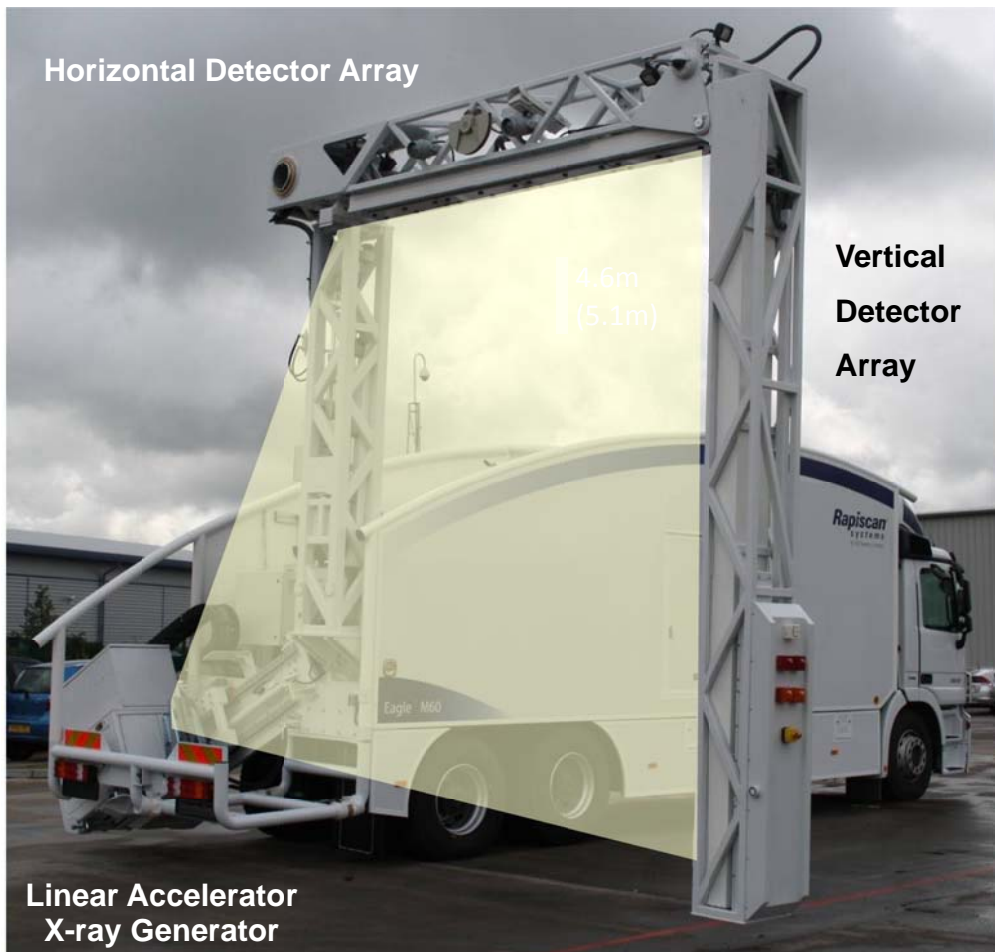

Figure 3. The Eagle M60 – X-ray Imaging System
The system scans by driving past an object which fits in the inspection tunnel between the X-ray generator and the detector array (Figure 3). The boom is deployed on the passenger side at 90° to the inspected object. The Eagle M60 scans one or more objects up to 5.0 m tall x 2.8 m wide x any length. The optional drive-thru scanning mode scan trucks as they drive through the stationary inspection tunnel. The resulting X-ray image is immediately displayed on a workstation in the Inspector Cab, which houses two onboard inspectors. Optionally a third inspector can be accommodated.
**X-ray Generator.** The Eagle M60 uses a linear accelerator to generate a 6 MV X-ray beam. The X-ray generator is heavily shielded and the beam tightly collimated into a fan shape, which minimizes radiation dose while maximizing beam intensity at the center of the object being scanned. The fan beam (Figure 3) is oriented to inspect from the axle to the top of a truck or container on a truck without corner cutoff. A dual-energy linear accelerator is used with the optional material separation capability